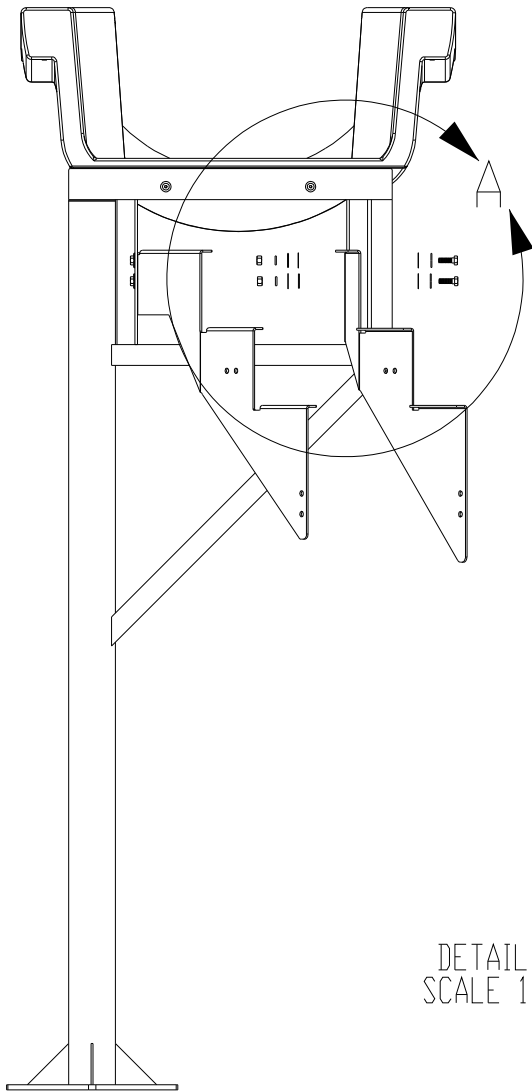

FIGURE 19
2) Place the Outside Stair Bracket (38) in line with the two holes on the inside of the Main Stair Support so that it is closest to the support tube, as shown in Figure 19. Use the following hardware to attach the bracket to the main stair support: 1/2" x 1.5" Hex Head Bolt (31), 1/2" Flat Washer (17), 1/2" Nylon Washer (22), 1/2" Nylon Washer (22), 1/2" Flat Washer (17), 1/2" Lock Washer (18), and a 1/2" Hex Nut (20), see Detail A. Do not fully tighten yet. **After all hardware has been attached tighten each bolt securely.**
On steps where a handrail bracket is attached, you will have to use the following hardware to attach the stair treads through the brackets: 5/16" x 2.5" Socket Head Cap Screw (49), 5/16" Flat Washer (34), 5/16" Nylon Washer (33), 5/16" Flat Washer (34), 5/16" Lock Washer (35), and a 5/16" Hex Nut (36), see Figure 19.